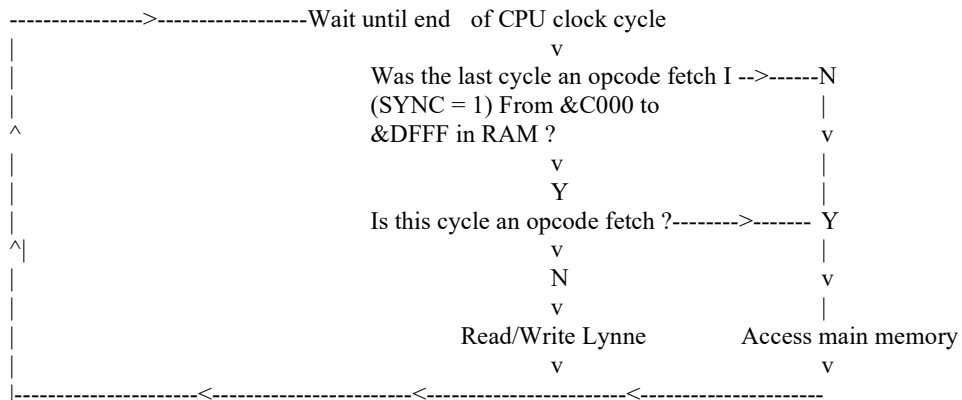

Figure 2
* When bit E in ACCCON is set, if the address range is &3000 to &7FFF the CPU will read/write Lynne according to the flow shown in figure 2.